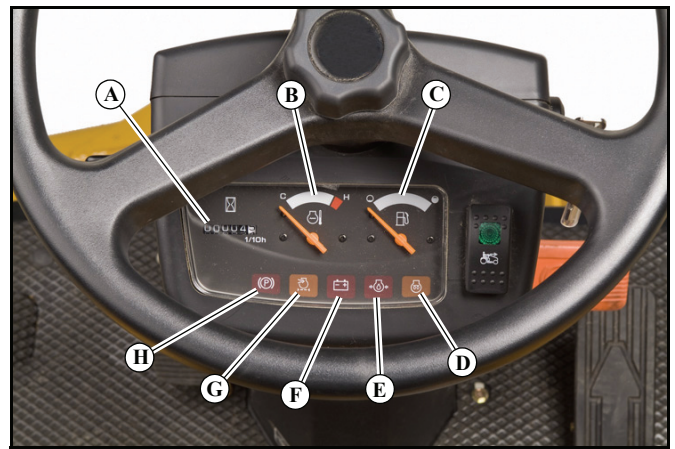

Figure 3-1
- A. **Electronic hour meter (Figure 3-1)** — Registers 1/10 hour increments up to 9,999.9 total hours. Connected to the ignition switch, the meter records the accumulative time while the ignition key is switched to the RUN position.
- B. **Temperature gauge and alarm (Figure 3-1)** — When the needle is in the middle area, the engine is at its normal operating temperature. When the needle reaches the “H” side of the gauge it indicates the engine coolant has reached an unsafe temperature. If this occurs, shut down the machine as soon as possible. Never risk continued operation; high temperatures can severely damage the engine. The coolant temperature fluctuates depending on ambient temperatures and working loads. If the needle is at the “H” side during operation, the overheat alarm buzzer sounds.
- C. **Fuel gauge (Figure 3-1)** — This gauge indicates the amount of fuel in the tank.
- D. **Glo-plug warning light (Figure 3-1)** — Comes on when turning the key switch to the “HEAT” position or “START” position. This light will stay on for approximately 5 seconds in the “HEAT” Position.
- E. **Oil pressure warning light and alarm (Figure 3-1)** — This light comes on when the ignition switch is placed in the “RUN” position and stays lit until the engine is running and a safe oil pressure is developed. If light comes on during operation, shut engine off immediately and locate and correct the problem. When oil pressure falls below 4.25 psi (29.4 kPa), the alarm buzzer will sound. **IMPORTANT:** The operator must occasionally check the crankcase for proper oil level.
- F. **Charge indicator warning light (Figure 3-1)** — This light comes on when the ignition switch is placed in the “RUN” position and stays lit until the engine is running. If it remains lit the charging system is not operating normally. Investigate the cause as soon as possible, otherwise the battery will fully discharge.
- G. **Air cleaner restriction warning light (Figure 3-1)** — When the air cleaner element is clogged by foreign substances, such as dust, and clean air is restricted to the engine, this light will illuminate. Refer to the *Engine Air Filter* section of this manual for detailed information.
- H. **Parking brake warning light (Figure 3-1)** — When the parking brake is applied, this light will illuminate.